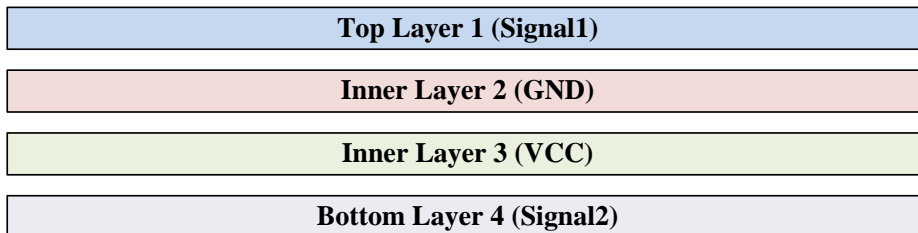

**Figure 23. Four-Layer Board Stack-Up**
9. Due to high frequencies associated with the USB, a printed circuit board with at least four layers is recommended; two signal layers separated by a ground and power layer as shown in Figure 23.